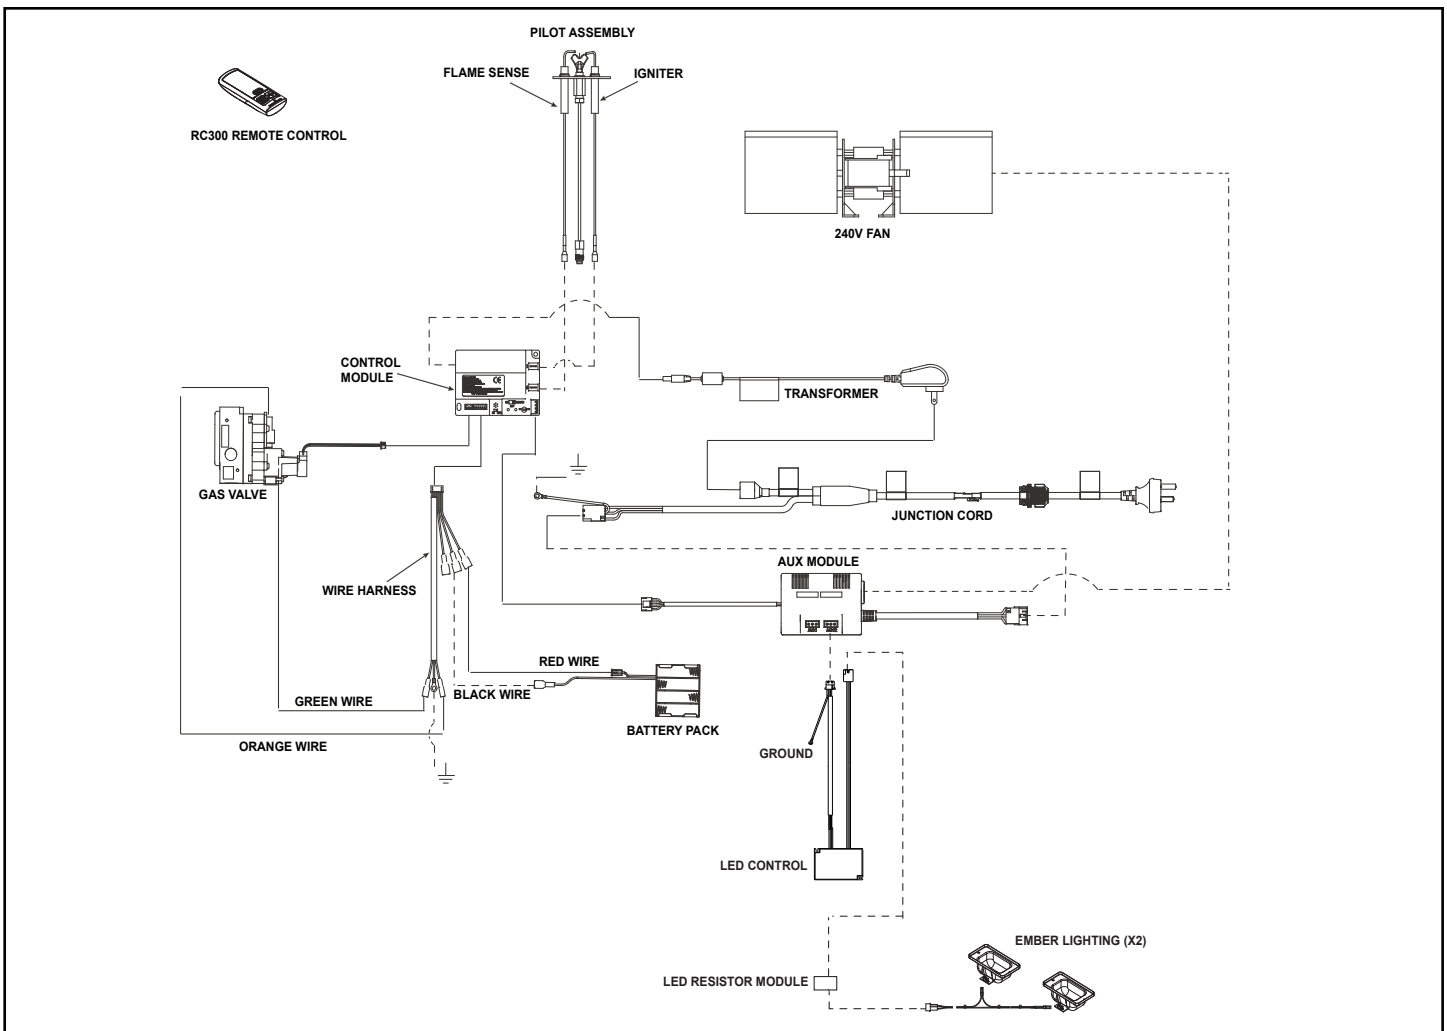

Figure 8.1 IntelliFire™ Plus Wiring Diagram with Remote
- Refer to Figure 8.1, IPI Wiring Diagram.